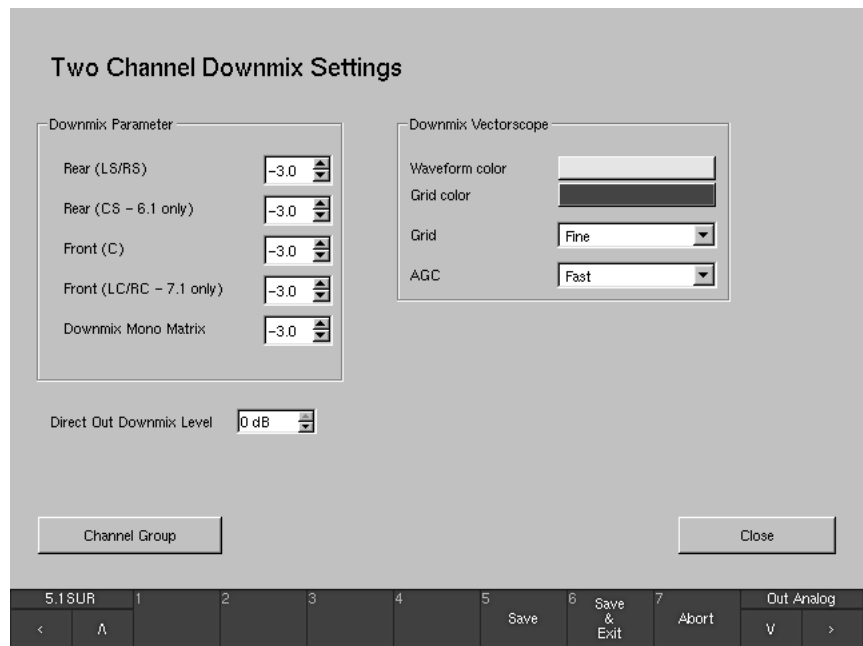

Fig. 6-38: The Two Channel Downmix Settings menu page
See Chapter 6.5.2.7 and Fig. 6-38
- The **Downmix – Channel Group** menu page is accessed using the **Channel Group** button of the **Two Channel Downmix Settings** menu page (see Chapter 6.5.2.7 and Fig. 6-38).